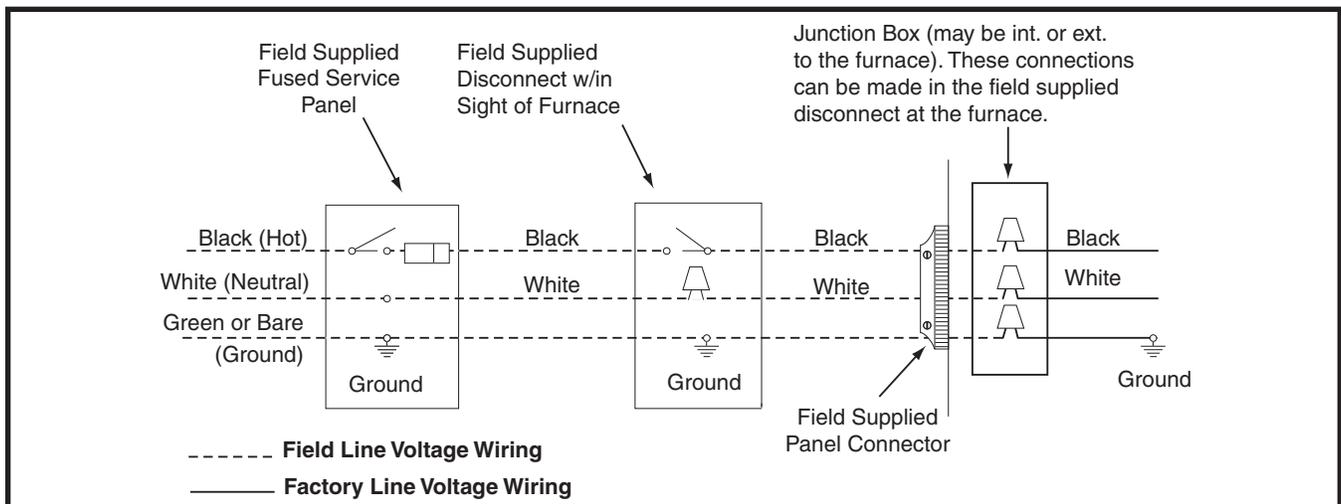
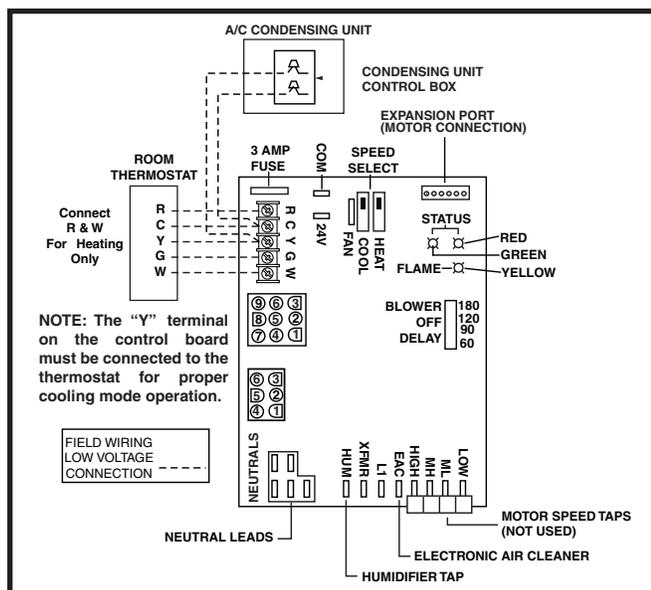

Figure 14. Line Voltage Field Wiring
Figure 15. Low Voltage Field, Four-wire Heating/Cooling Applications
An electrical disconnect must be installed readily accessible from and located within sight of the furnace. See Figure 14 or the wiring diagram label inside of the control door. Any other wiring methods must be acceptable to authority having jurisdiction.
to the black wire. The furnace will not operate unless the polarity and ground are properly connected as shown in Figure 14.
- The thermostat must be installed according to the instructions supplied by the thermostat manufacturer. Low voltage connections (24 VAC) from the thermostat are wired to the terminal strip on the integrated control in the furnace. Figure 15 contains the proper connections for heating only (two-wire) and heating/cooling (four-wire) applications. Recommended minimum wire gauge for thermostat wiring is shown in Table 2 (page 19).
- The six pin terminal marked "Expansion Port" (Figure 15) is not used in the single stage furnace as shipped from the factory. It is used for the furnace control board to communicate to a fixed speed or variable speed high efficiency motor that may be optionally installed. Please contact your distributor for the proper upgrade motor kit.
The operating sequences for the heating, cooling, and fan modes are described below. Refer to the field and furnace wiring diagrams: (Figure 14, page 19), (Figure 15, page 20) and (Figure 19, page 30).